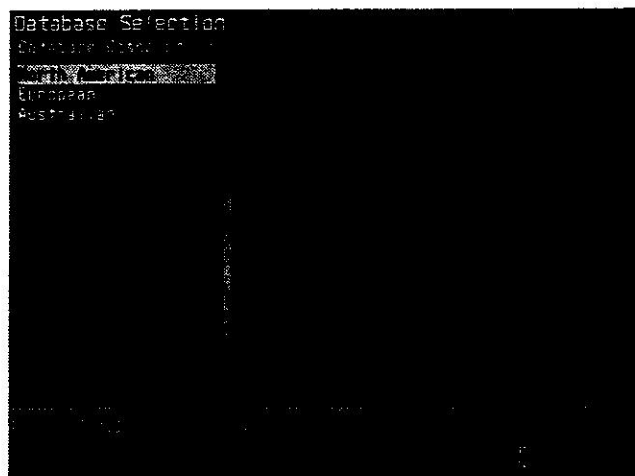

Figure 1-17
**NOTE** Press [F2] and a menu of available regional databases will be displayed (see Figure 1-17). Use the cursor keys to highlight the selection of your choice and press [ENTER]. You will be returned to the vehicle specification screen (see Figure 1-16).
- [F1] – Access the "Vehicle Specs" to change the manufacturer or make entry. When you have finished selecting the vehicle specifications, a Vehicle Specification Entry screen will be displayed (see Figure 1-17). Press [F3] to enter new vehicle specifications, [F5] to edit the existing specifications, or [F10] to return to the Main Menu;